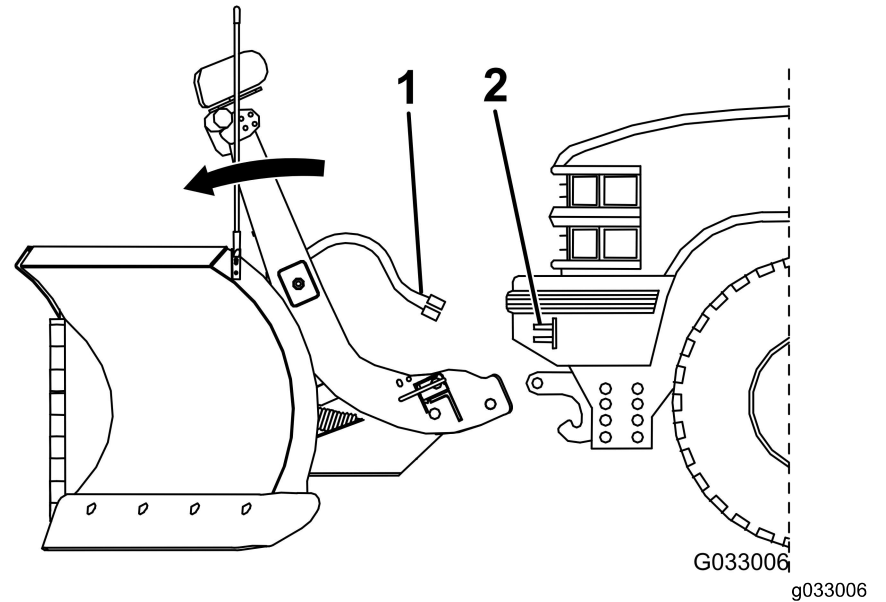

Figure 33
- 6. Disconnect the plow wire harnesses from the vehicle wire harnesses and secure the electrical-plug dust covers (Figure 33).